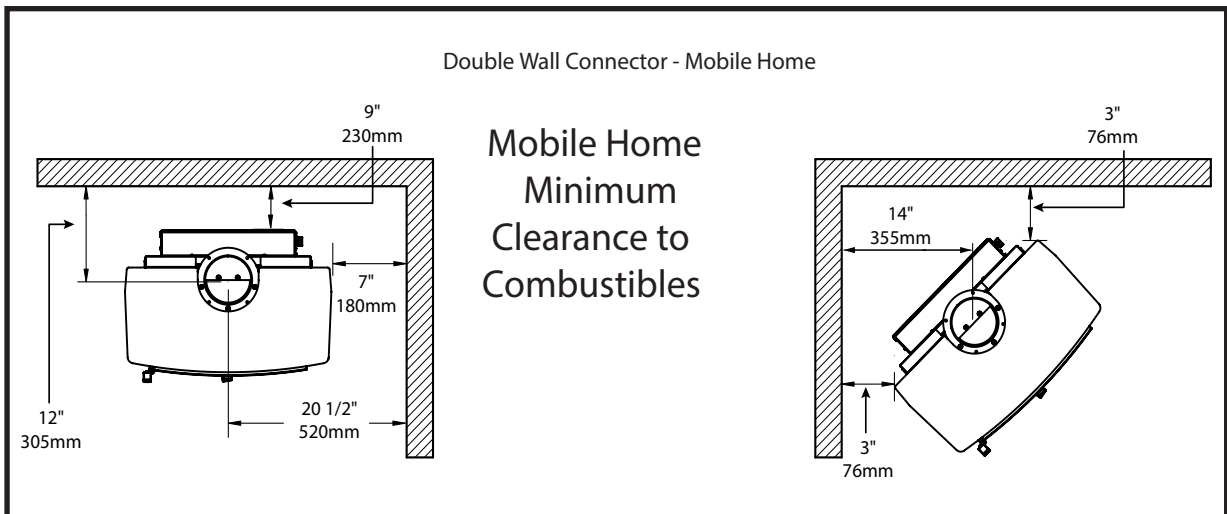

Figure 8: Mobile home clearances.
2. Clearances to combustible surfaces and materials using single-wall connector are shown in Figure 8. Clearances may be reduced with various heat insulating materials. Consult local fire codes and authorities for approval.
This heater must be installed with a listed double-wall connector and compatible chimney system. Clearances to combustible surfaces and materials are shown in Figure 8 below. Clearances may be reduced with various heat insulating materials. Consult local fire codes and authorities for approval.